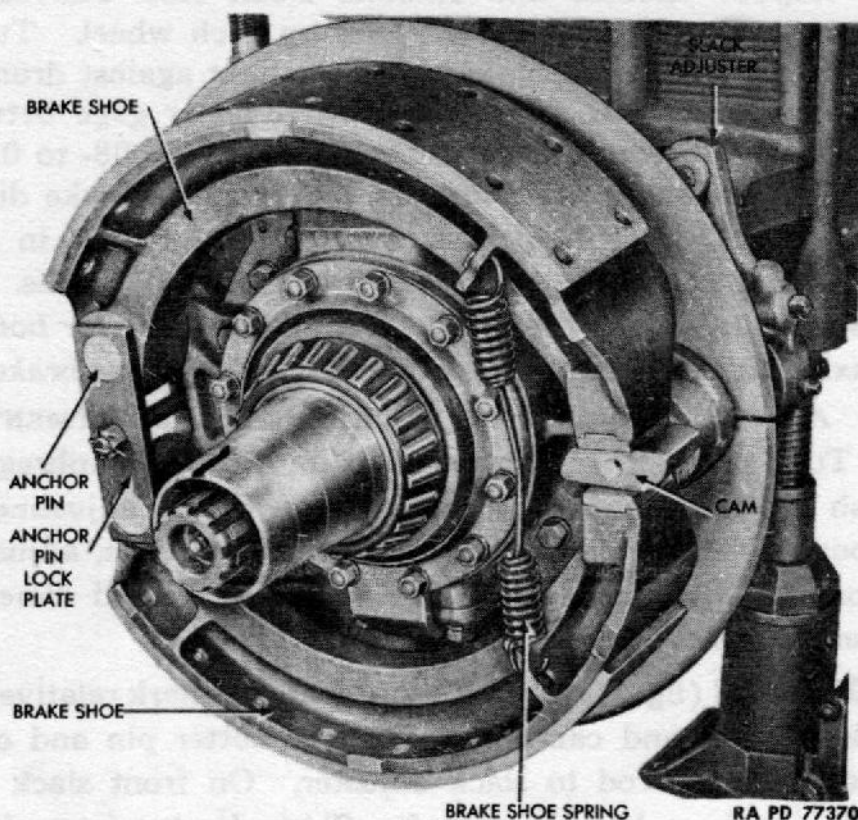

Figure 117 — Front Brake Shoes Installed
(1) DESCRIPTION (figs. 117 and 118). Two brake shoes are attached to a backing plate inside each of the four brake drums. Two anchor pins hold the adjacent ends of the shoes in place. Opposite ends of the shoes are pulled together by a brake shoe spring. A cam, located between these ends, pivots when the brakes are applied and pushes the ends of shoes apart. This presses the lining, riveted to shoes, against brake drums. This action creates braking action. When the brakes are released, the cam pivots back to its original position, and the brake shoe spring draws the shoes toward each other. Thus the shoe linings are pulled away from the drums, and braking action ceases. Front shoes are slightly different from rear shoes, due to space limitations which require a shorter lift on the operating cases. Also, front shoes are mounted on eccentric pins which can be rotated to bring shoes closer to the drum at the anchor pin end.
(2) TABULATED DATA.
- (3) REMOVE BRAKE SHOE SPRING (figs. 117 and 118). Use slack adjuster to turn camshaft until shoes are at lowest point on cam. Slide brake shoe spring from holes in shoes. **NOTE: Rear wheel brakes have two springs.**
- (4) REMOVE ANCHOR PIN LOCK PLATE (figs. 117 and 118). Remove cotter pin and stud nut which hold lock plate on pins. Lift plate from pins.
- (5) REMOVE SHOES (figs. 117 and 118). Pull both shoes from anchor pins.
(1) ATTACH SHOES TO ANCHOR PINS (figs. 117 and 118). Position shoes on anchor pins. Position lock plate on pins and shoes. Install stud nut and cotter pin which secure lock plate to pins.
(2) INSTALL BRAKE SHOE SPRING (figs. 117 and 118). Pull free ends of shoes together. Insert spring end clips through holes in brake shoes. On rear wheel brake, install two springs.
(3) INSTALL HUB AND WHEEL (par. 167 f).
(4) ADJUST BRAKES (par. 159 b).